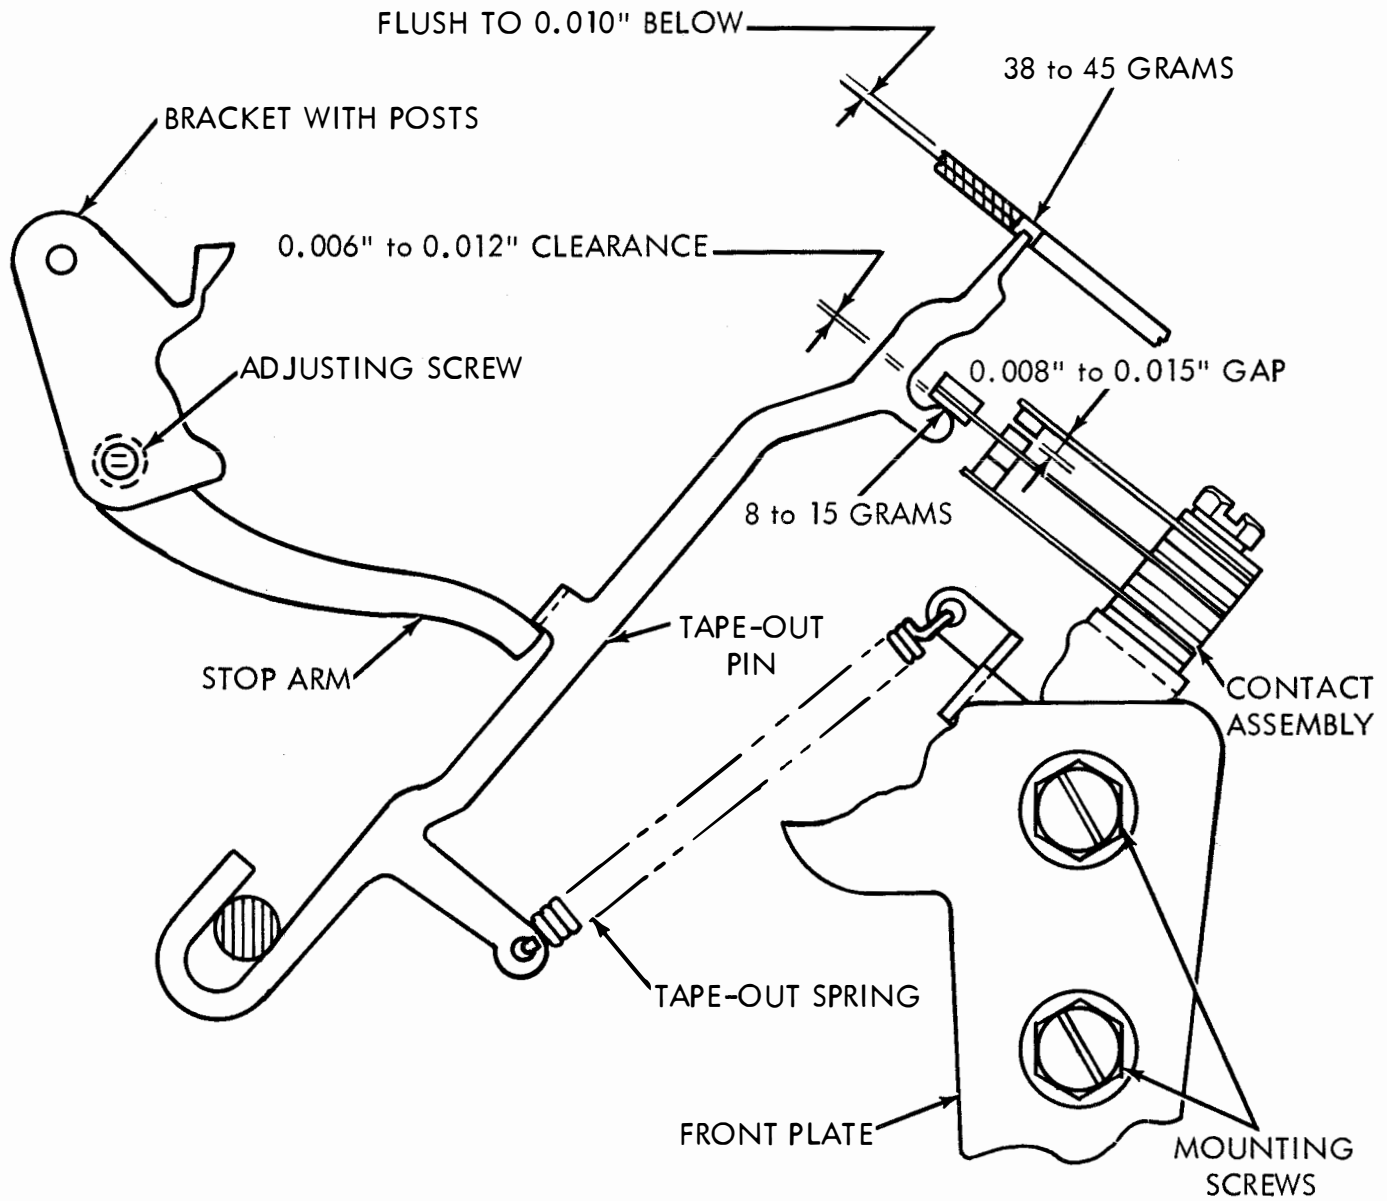

Figure 1
- 3.02 Tape-Out Contact Assembly Adjustment (Figure 1)
3.04 Tape-Out Pin Adjustment (Figure 1)